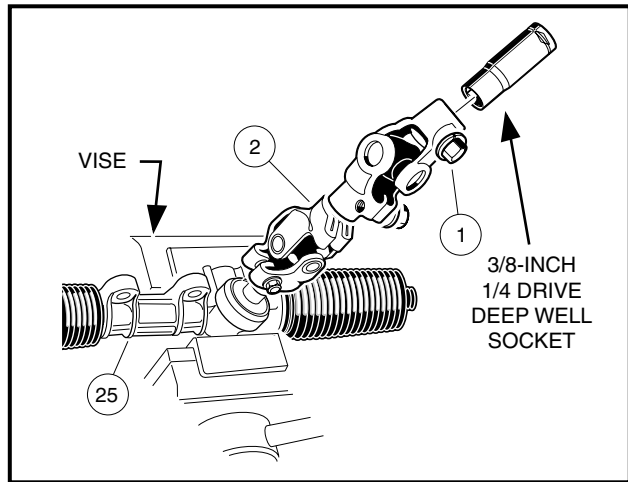

Figure 7-15 Rack and Pinion Resistance
- 12.2. Insert a 3/8 inch deep well socket into the steering column end of the universal joint (2) and tighten the bolt (1) to 15 ft-lb (20.3 N·m) **(Figure 7-15, Page 7-12)**.